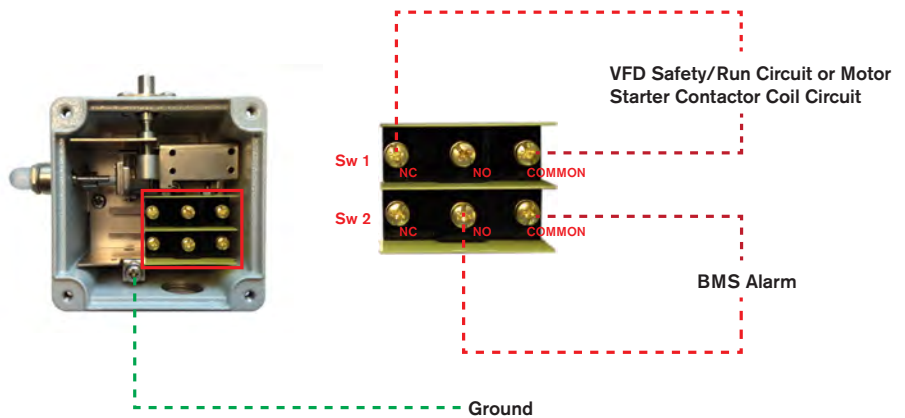

Figure 1
4. Make the necessary electrical connections to the vibration switch. See **Figure 1** for electrical terminal locations and for typical wiring. **Do not exceed voltage or current ratings of the contacts.** Follow appropriate electrical codes/methods when making electrical connections. Be sure that the run of electrical cable is secured to the machine and is well insulated from electrical shorting. Use of conduit is recommended.